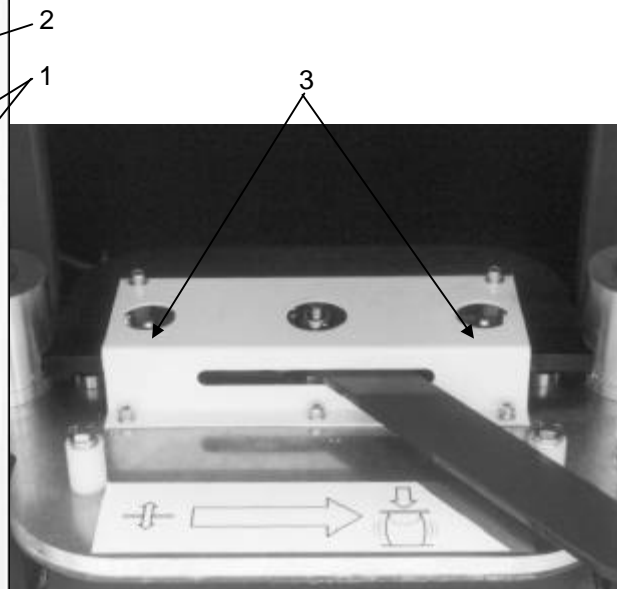

figure 6
- Lubricate the clamping mechanism (see figure 6, number 3).